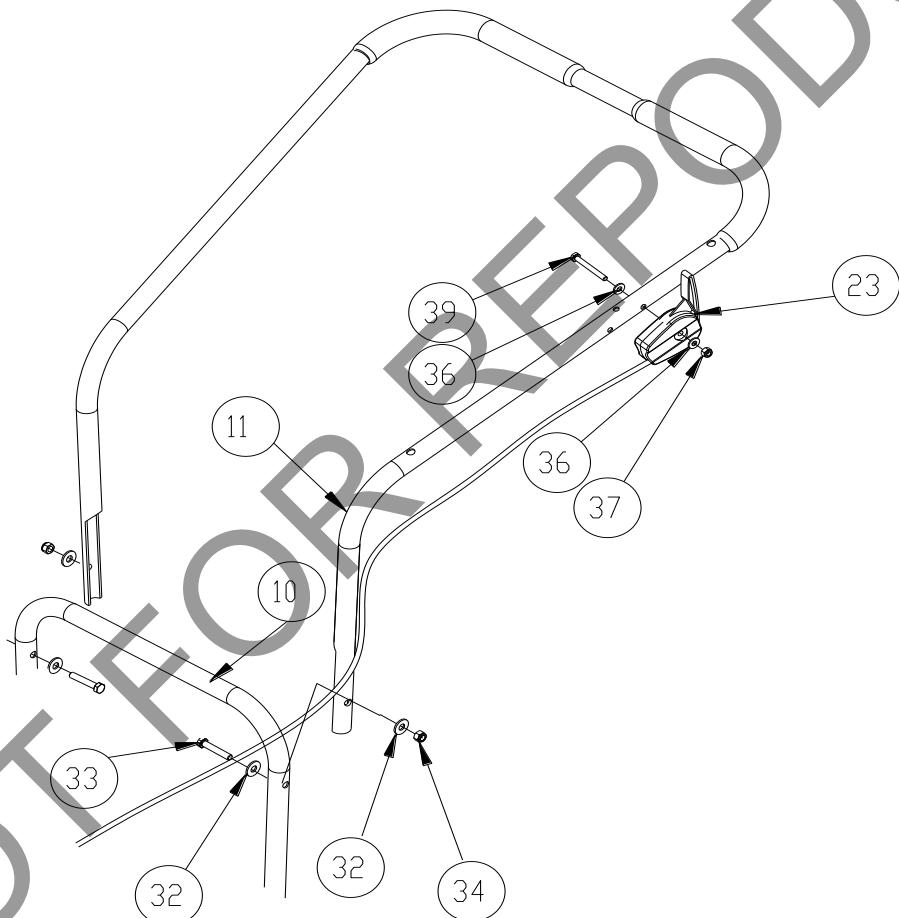
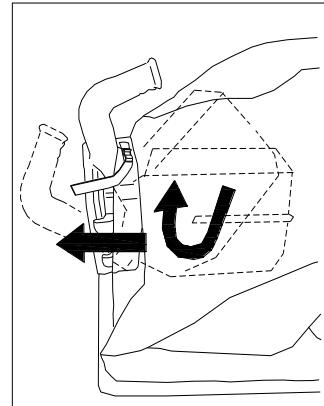

Fig. 1
Fig. 2
1. **ASSEMBLE** Lift upper handle (item 11), remove items 34, 32, and 33 from the parts bag. Attach and secure upper handle as shown using same hardware. (See *Fig. 1*)
2. **ATTACH** the throttle lever (item 23) to the handle, either to the right side or left depending on which model of engine you have (see image below). Attach the lever with the hardware (items 36, 37, and 39) found in the parts bag. Once attached use the Ty-wrap to secure the cable to the handle.
3. **UNFOLD** the debris bag (item 21) and fasten bag neck to bag quick disconnect (item 12). Attach firmly to housing exhaust (item 1) see *Fig. 2* and 3.
4. **ATTACH** bag hanger strap to bag supports (item 13), preassembled to upper handle.